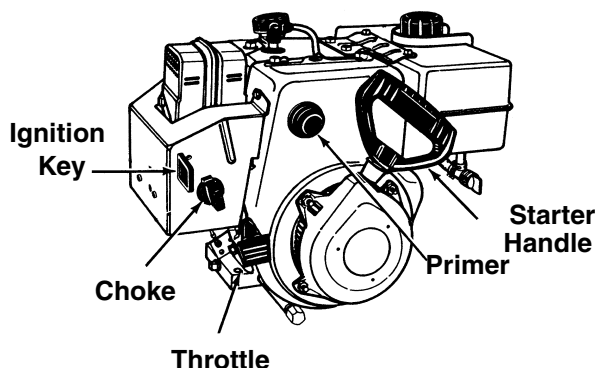

Figure 19
4. Move throttle control up to FAST position. Insert ignition key into slot. See Figure 19. Be certain it snaps into place. **Do not** turn key.
8. **Recoil Start Only:** Push primer button two or three times. If engine is warm, push primer button once only. See Figure 19.
**Recoil Start:** Grasp starter handle (see Figure 19) and pull rope out slowly, until it pulls slightly harder. Let rope rewind slowly. Pull starter handle rapidly. Do not allow handle to snap back. Allow it to rewind slowly while keeping a firm hold on the starter handle.